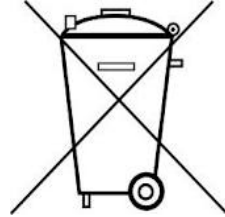

Fig. 1 Experiment set-up with Kundt's tube
- Place the microphone probes in the Kundt's tube and set up the apparatus. (see Fig. 1)